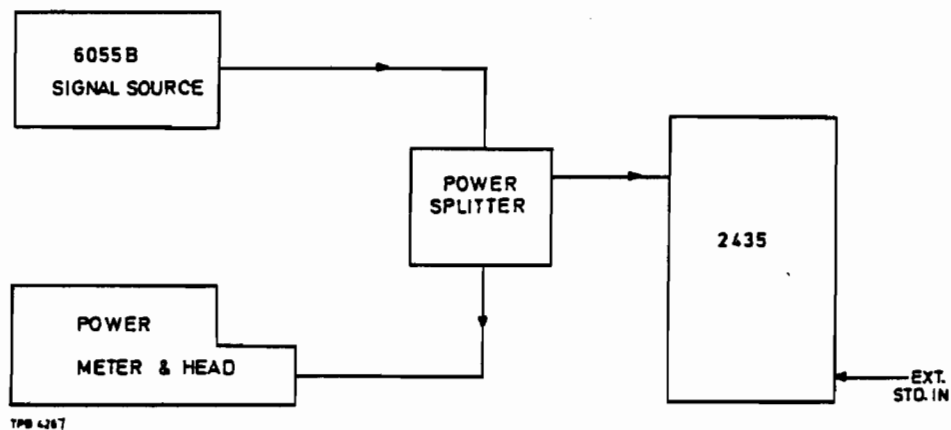

Fig. 2 Test gear arrangement to check channel A sensitivity.
- (1) Connect the test equipment as shown in Fig. 2.
- (2) Connect an accurately known 1 MHz standard frequency signal to the EXT STD input socket. Level to be within 150 mV to 10 V r.m.s.
- (1) With test equipment still connected as shown in Fig. 2, change signal frequency to 2 GHz and adjust input power level for a reading of -12 dBm on the power meter.
- (2) Select 1 kHz RESOLUTION (GHz readout).
- (3) Check counter indicates correctly.